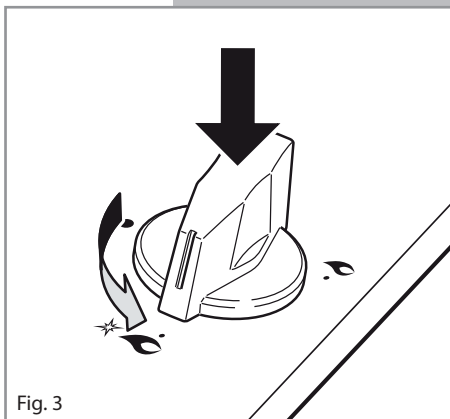

Fig. 3
- 1 - Press in the corresponding knob and turn counter-clockwise to the full flame position marked by the  symbol (fig. 3) and hold the knob in until the flame has been lit.